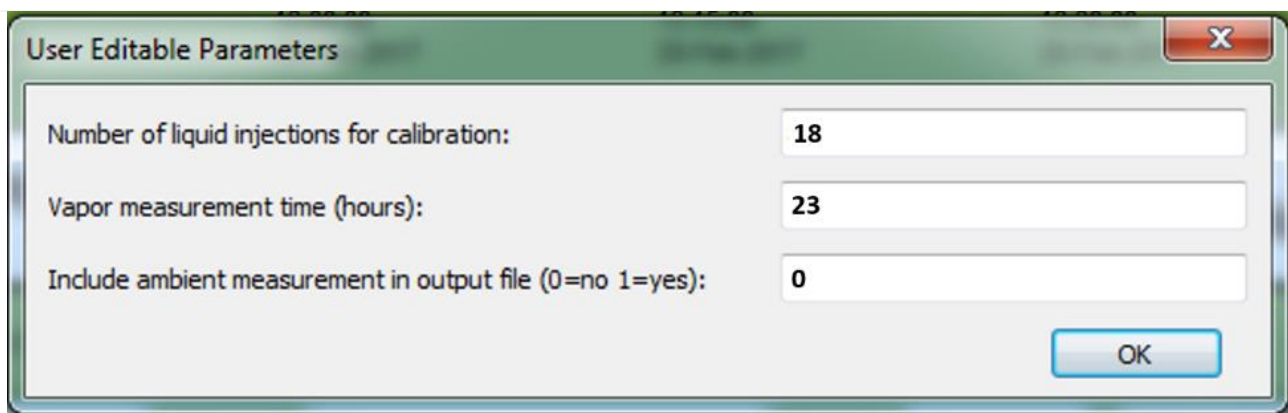

Figure 195. Edit User Editable Parameters.
STEP 8 | Set **User Editable Parameters** and click **OK** when complete (Figure 195).